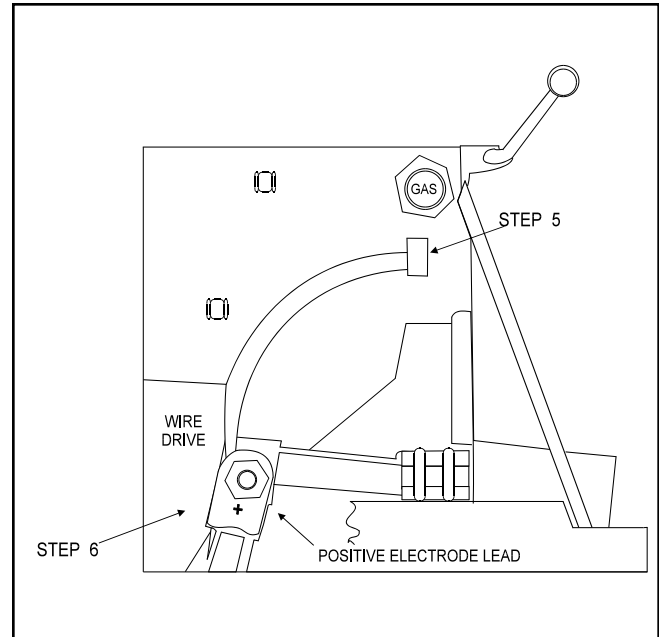

Figure C.4 - Spool Gun Connection Box Installation.
5. Route the control cable of the connection box up through the opening in the front louver provided for the work lead, then up behind the wire drive, and connect the plug to the kit receptacle installed in the previous section A. See Figure C.4.